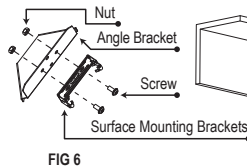

FIG 6
1. Fasten the Angle Bracket to the Surface Mounting Brackets using screws and nuts, as shown in Fig. 6. The recommended center-to-center distance for the Angle Bracket is 31.68".